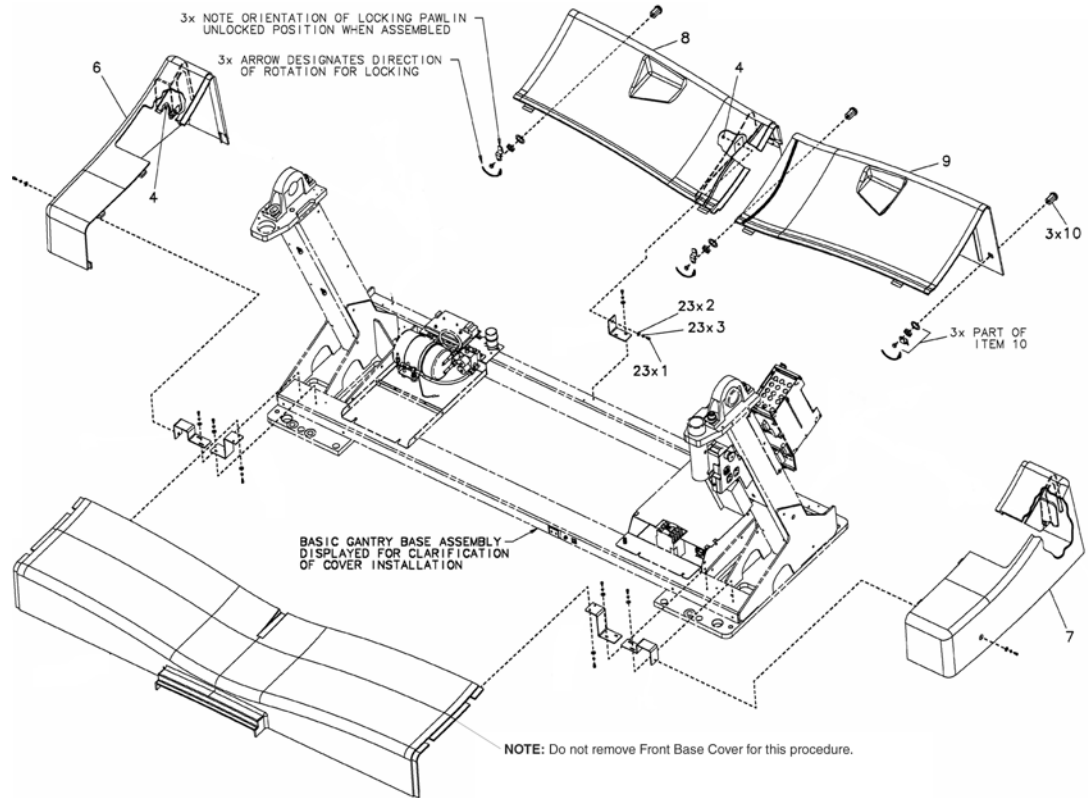

Figure 3-4 Gantry Base Covers, exploded view
- 3.) Remove both left and right Gantry side base covers (items 6 & 7, respectively, in Figure 3-4) and then both rear base covers (items 8 & 9, in Figure 3-4).
- 5.) Reinstall both rear base covers (See Figure 2-3, on page 25 or Figure 3-4, on page 34).